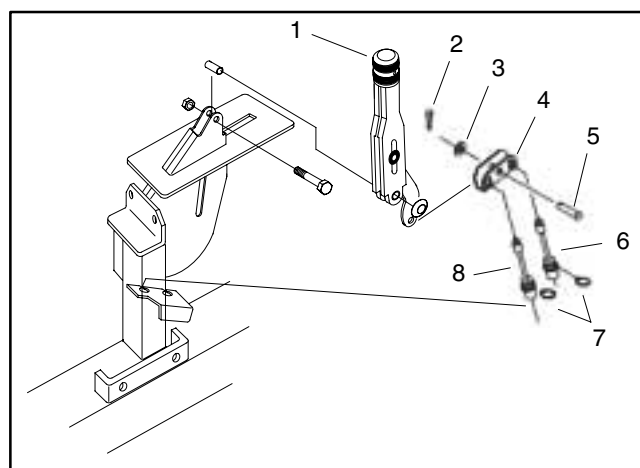

Figure 10
3. Remove cotter pin, flat washer, and clevis pin that secure brake equalizer to parking brake lever (Fig. 10).
4. Remove retaining rings that secure brake cables to frame. Remove cable ends from equalizer plate (Fig. 10).